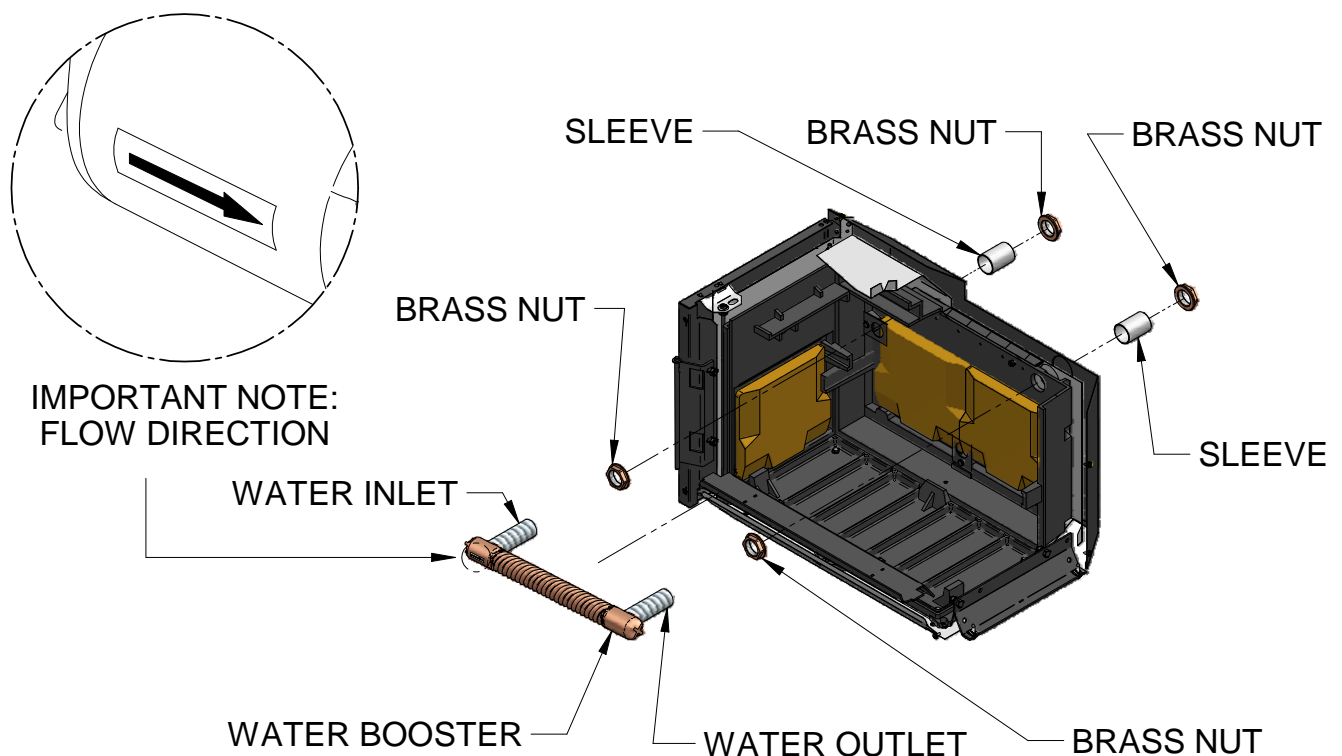

Figure 3 Typical water booster installations in cast or steel fire boxes
- Fit water booster and ensure the brass nuts are tight as per Figure 3. We recommend sealing the brass nut inside the firebox using fire cement.